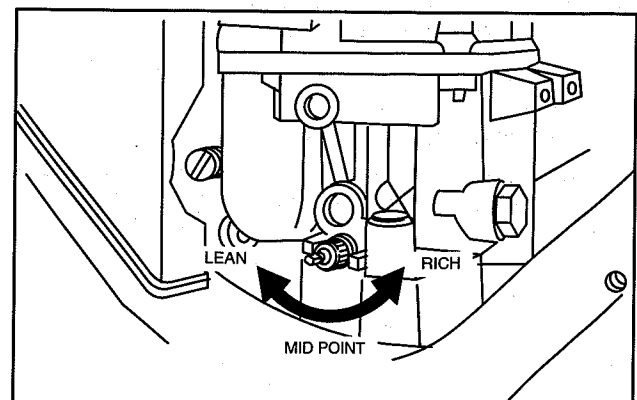

Fig. 133 – Adjust Idle Mixture
5. Turn screw to mid point between rich and lean, Fig. 133.